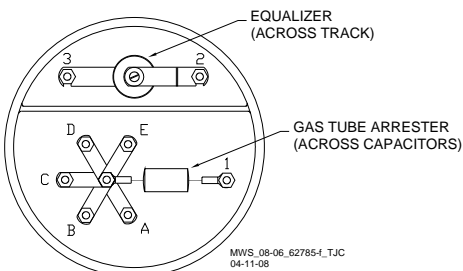

Figure 9: Tuned Joint Coupler, 62785-f
- AREMA binding posts are labeled A through E (see Figure 9)